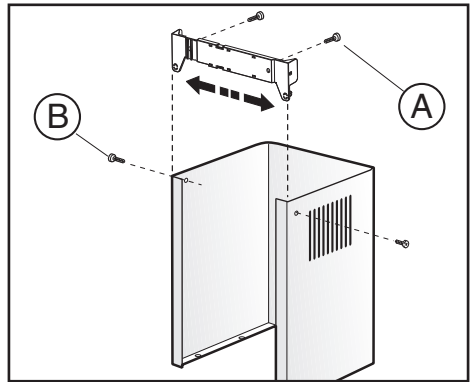
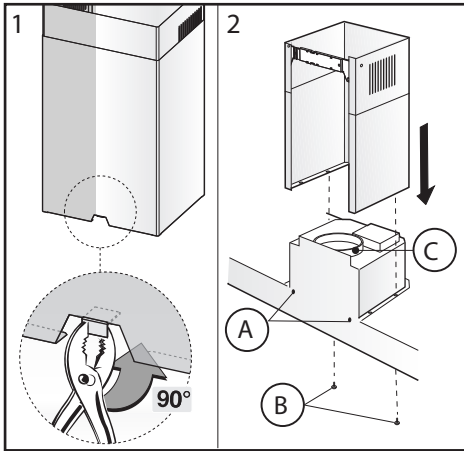

Fig.3
Fig.5
Drill the holes **A** respecting the distances indicated (Fig.2). Fix the appliance to the wall and align it in horizontal position to the wall units. When the appliance has been adjusted, definitely fix the hood using the screws **A** (Fig.5). For the various installations use screws and screw anchors suited to the type of wall (e.g. reinforced concrete, plasterboard, etc.). If the screws and screw anchors are provided with the product, check that they are suitable for the type of wall on which the hood is to be fixed.
**warning!** Caution! If your appliance model features the lower connector with a tab, before fixing it in place bend the tab inwards using a pair of pliers, as illustrated in **figure 5, step 1**.
Arrange the electrical power supply within the dimensions of the decorative flue. If your appliance is to be installed in the ducting version or in the version with external motor, prepare the air exhaust opening. Adjust the width of the support bracket of the upper flue (Fig.3). Then fix it to the ceiling using the screws **A** (Fig.3) in such a way that it is in line with your hood and respecting the distance from the ceiling indicated in Fig.2. Connect the flange **C** to the air exhaust hole using a connection pipe (Fig.5 - Stage 2).
Insert the upper flue into the lower flue. Fix the lower flue to the hood using the screws **B** provided (Fig.5 - Stage 2), extract the upper flue up to the bracket and fix it with the screws **B** (Fig.3).